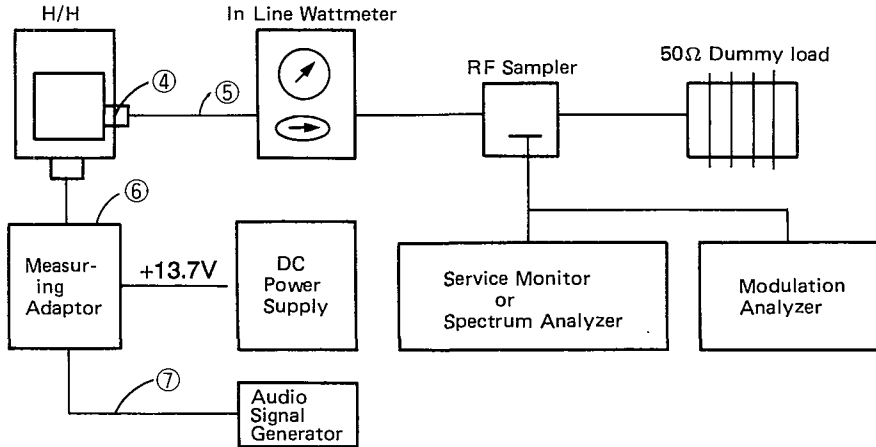

Fig. 3 Tx Measurement Block Diagram
Please refer to Fig. 3 for the following steps:
8. Insert connector (N) into Receiver Earphone Unit (L). Put receiver unit on top of RF unit by positioning the guide for the Receiver unit beside antenna holder. Position wires as shown in Figure 3.
9. First route the coaxial cable from the Receiver unit (L) using an plastic or orangewood stick, press the cable into the channel (K) insert the connector into P203 as indicated. Install ground clip (Q) to the channel (K) . Then place the coaxial cable from the RF unit (H) on Top, insert the connector into P204.
10. Inspect the assembly before attaching the back cover, make certain that the microphone wires are away from the edge of the cover. The coaxial cables must be seated into the channel (K). If necessary dress the cable away from antenna well.
11. Snap on the back cover. It should be even with the bottom cover. Install bottom (1) first then top (2). Fasten with 3 screws (P) as shown, do not overtighten.
- (1) Apply +13.7V Source DC. Turn on the power switch of Measuring Adaptor.
- (2) Enter the password " *0000#". The display should indicate "MAINT MODE".
- (3) Suspend the handheld portable by entering * 3 send. The display should indicate "TEST MODE".
- (4) Load the synthesizer by entering 03 send. The display should indicate "CHAN NO.? 03 *". Enter 1 send. The display should now indicate "LOAD SYNTH 03 *1".
- (5) Set the frequency of the service monitor to measure 890.0125 MHz ch 1. (Be sure that the instrument is properly set up as shown in Fig. 3.).
- (6) Set power level by entering 04 send. The display should now indicate "PWR LEVEL? 04* ". Enter 4 send. The display should now indicate "SET ATTN 04 * 4".
- (7) Activate the transmitter by entering 02 send. The display should indicate "CARR ON 02".
- (8) Adjust R328 on the RF board until the wattmeter indicates 95.5 mW(19.8 dBm \pm 0.5 dBm) power level 4.
- (9) Select PL7 by entering 04 send 7 send. The display should indicate "SET ATTN 04 * 7".
- (10) Adjust R334 on the RF board until the wattmeter indicates 6 mW (7.8 dBm \pm 0.5 dBm) power level 7.
- (11) Select power level 2, 3, 4, 5, 6 and 7 by same method, and confirm output power as shown in Table 2.